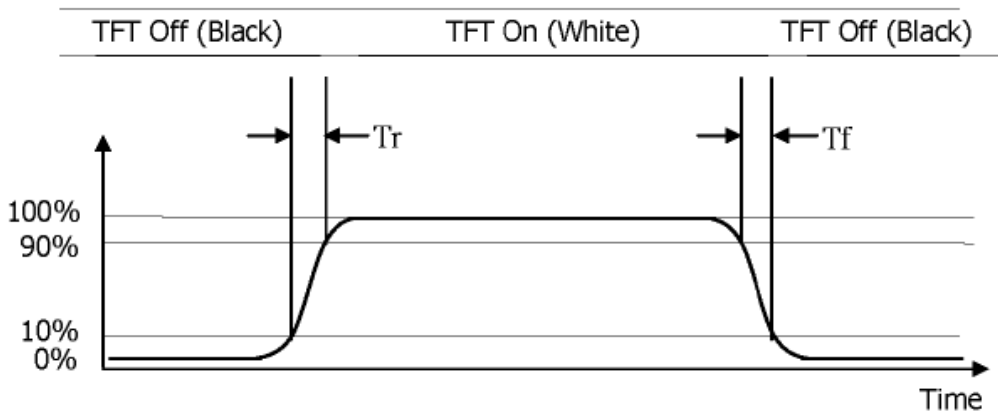

Figure 10: Response Time Testing
5. The electro-optical response time measurements shall be made as FIGURE 10 by switching the "data" input signal OFF and ON. The times needed for the luminance to change from 10% to 90% is T_r , and 90% to 10% is T_f .